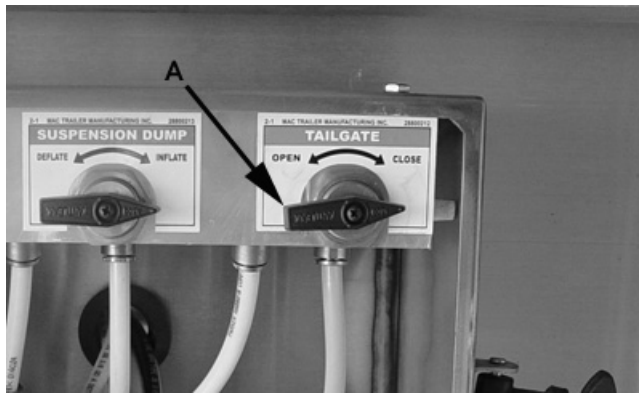

Figure 5-4 Move Tailgate Valve To Open
9. Move tailgate valve (A) to "Open". See figure 5-4. Valve is located on the drivers side of the trailer.